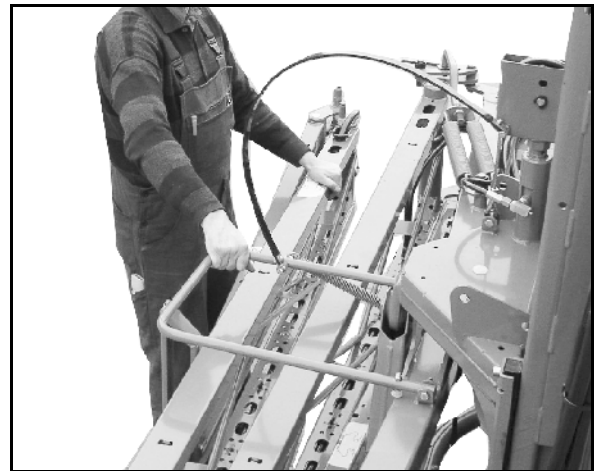

Fig. 75
1. Unlock the transport safety catch by lifting the bar (Fig. 75).